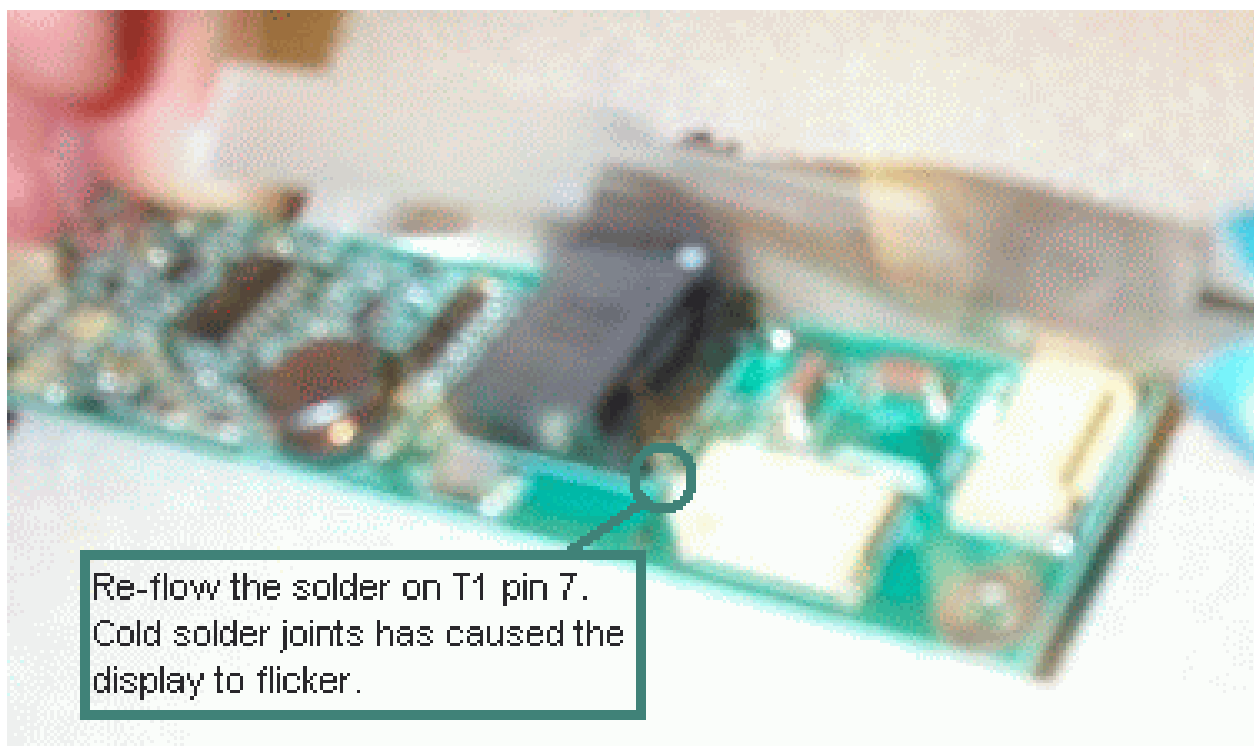

Figure 3
3) Re-solder pin 7 of the transformer on the backlight inverter board. See Figure 3.